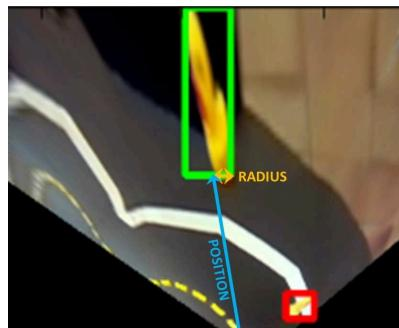

Figure 13.14. Position and radius of the obstacle
7. Afterwards, we calculate the position and radius of all of the obstacles. After segmenting the object we calculate the 4 corners (which are connected in Figure 13.14 to form the green rectangle). We defined the obstacle's position as the mid-point of the lower line (this point surely lies on the ground plane). For the radius, we use the distance in the real world between this point and the lower right corner. This turned out to be a good approximation of the radius. For an illustration you can have a look at Figure 13.14.